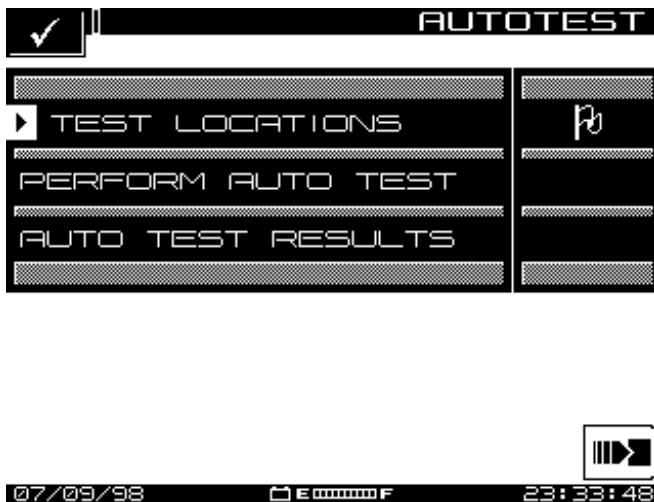

Figure 7-1: Autotest Main Menu
To operate in **Autotest**, press the **Test** Key. This activates the screen in Figure 7-1, with **Autotest** in the Title Bar. The **Autotest** menu consists of three submenus: **Test Locations**, **Perform Autotest**, and **Autotest Results**.
- Press the “step back” icon at the upper left to return to Figure 7-1.